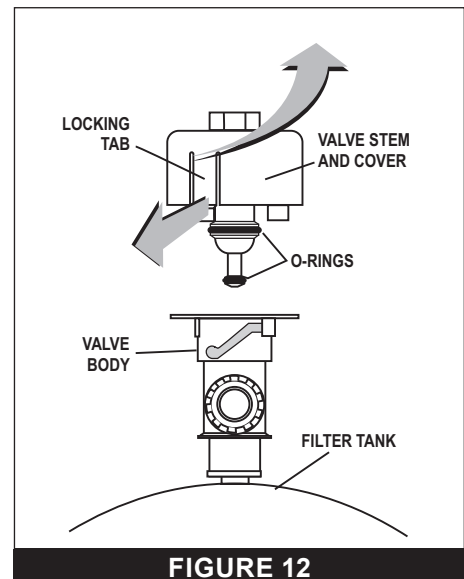

FIGURE 12
2. With the air relief valve installed, pull out the locking tabs and unlock the valve stem and cover assembly from the valve body counterclockwise (**FIGURE 12**).